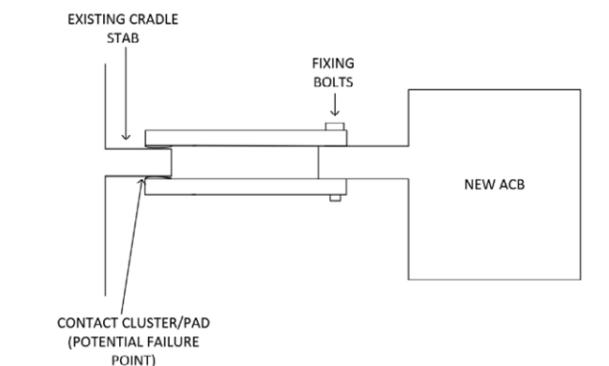

Figure 2 Side view.
- b) A "plug in" type installation kit. In this case the existing ACB cradle/sub-chassis is left in place and the new cradle/sub-chassis is "plugged in" using bus work to adapt the cradle to the existing stabs/contact clusters. The advantage is dramatically reduced shutdown time, but there is always a risk of poor electrical contact (and thus high resistance connections) due to small differences in manufacturing tolerances either on the existing ACB/chassis, or the new pre-fabricated bus work. Almost everybody involved in this sort of work has at least heard of a related horror story, if not witnessed one first-hand. (figure 2)